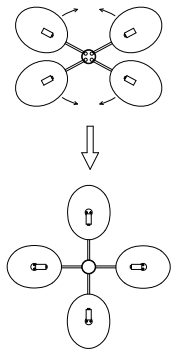

Fig. 1
- 10) Use the three (3) mounting screws [D] to secure the canopy [G] to the ceiling by threading into the sides of the canopy. Tighten to secure.
- 11) Rotate the arms into their correct locations as shown (Fig. 1).